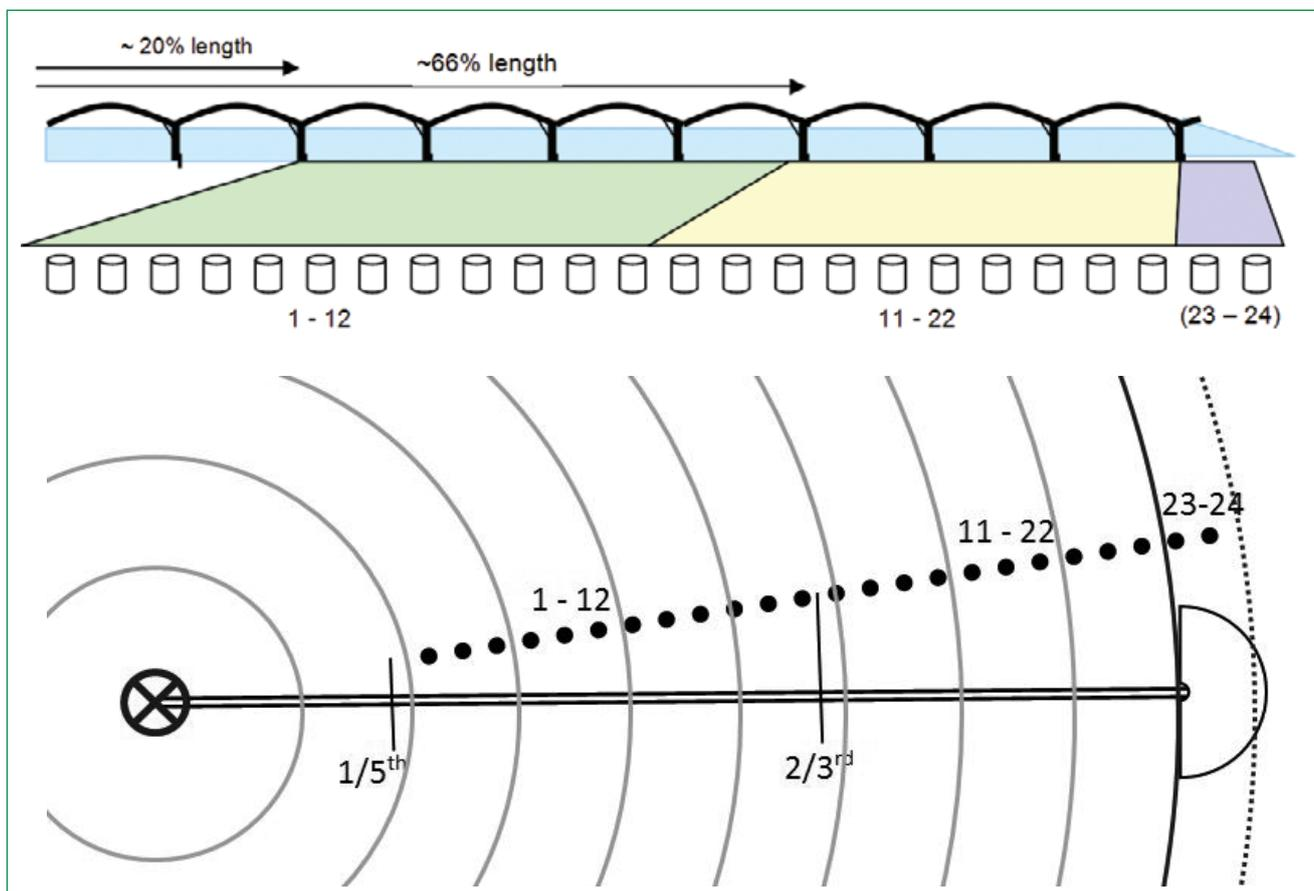

Figure 2.1. Layout of collectors along length of centre pivot irrigator
2. Arrange twelve collector buckets at even spacing from this point to two thirds of the irrigator length (see 1–12 in Figure 2.1).
3. Arrange ten more buckets at even spacing from two thirds of the irrigator length to the end wheels (see 13–22 in Figure 2.1). The spacing will be different to the first twelve buckets.
4. Arrange two buckets at even spacing between the end wheel track and the extent of significant wetting (see 23–24 in Figure 2.1).